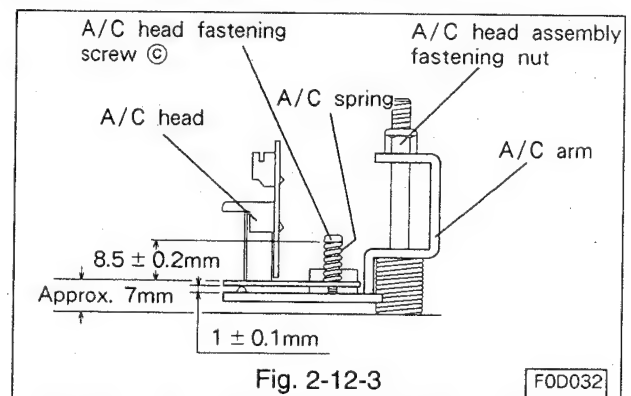

Fig. 2-12-3
Install the A/C head to the A/C arm so that the base surface of the A/C head shall be parallel to the A/C arm, and their spacing and the A/C head installation screw (c) height shall be as specified in Fig. 2-12-3.
- Tighten the A/C head assembly fastening nut so that the base surface of the A/C head shall be about 7mm above the main plate surface. (Refer to Fig. 2-12-3.)